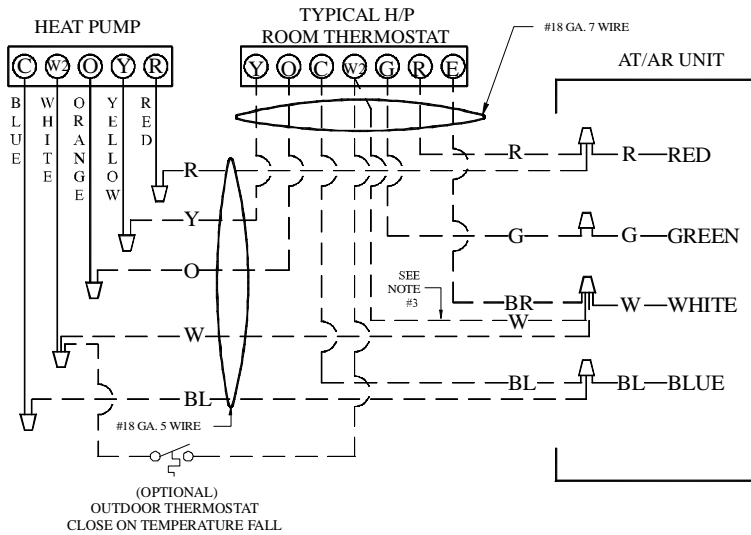

FIGURE 11
**NOTE:** Second Stage heat can be accomplished by multi-stage heating thermostat or the addition of an outdoor thermostat as shown in Figures 11 and 12.